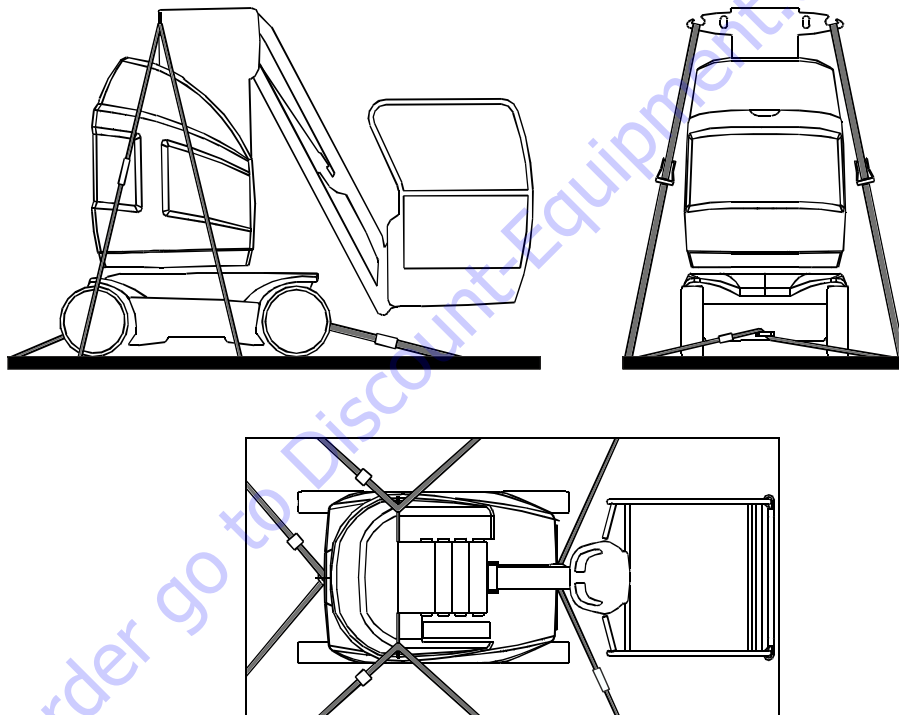

Figure 3-21. Machine Tie-Down - 10E/26E
- Machine must be tied down to the truck bed or trailer deck as shown in Figure 3-20. (8E/20E) or Figure 3-21. (10E/26E)